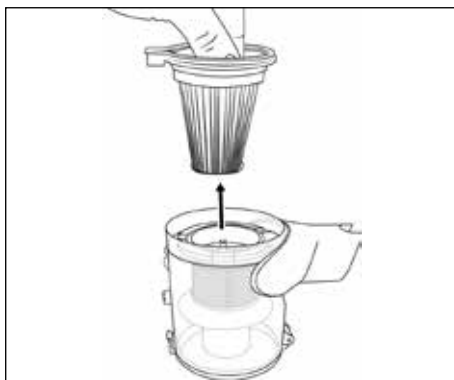

Fig. 18
- 3) Remove the HEPA filter **6** from the stainless steel filter **11** by holding the gripping rail of the HEPA filter **6** and pulling it out of the stainless steel filter **11** (see Fig. 18).